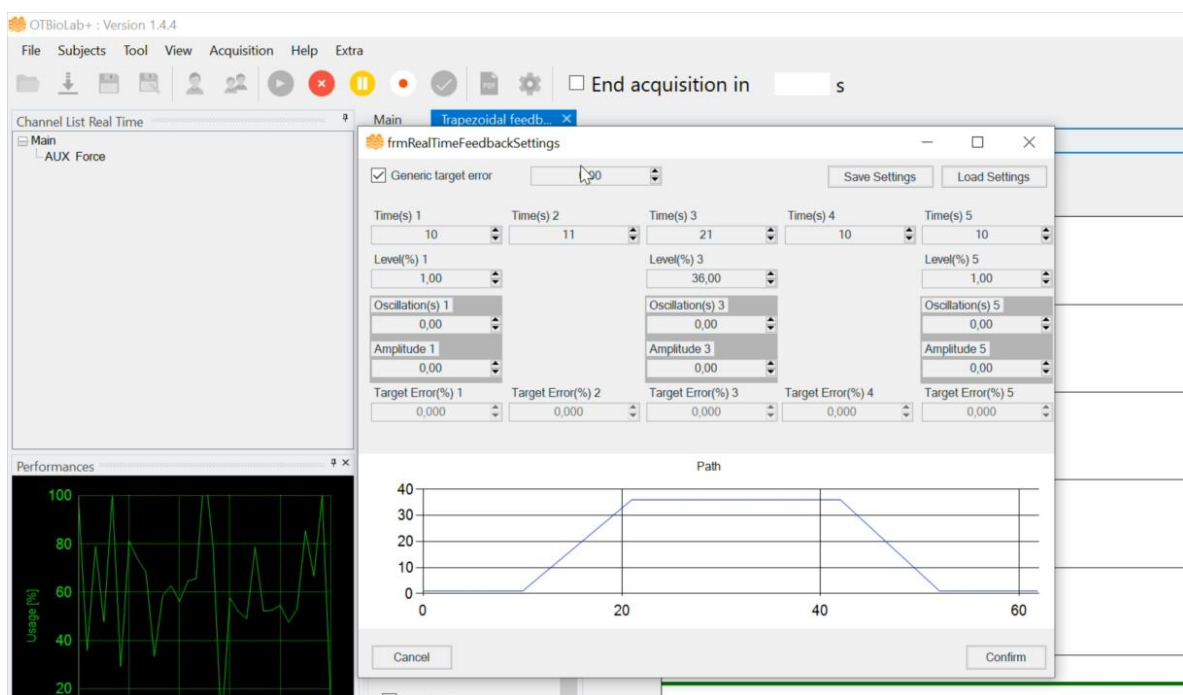
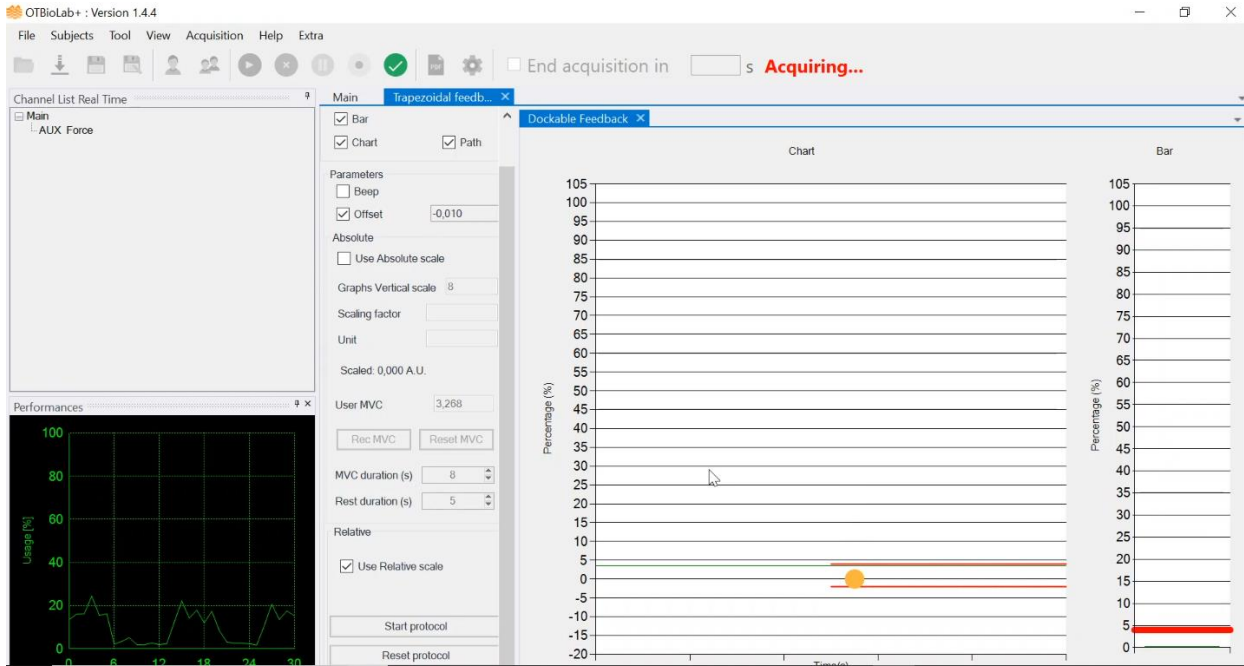
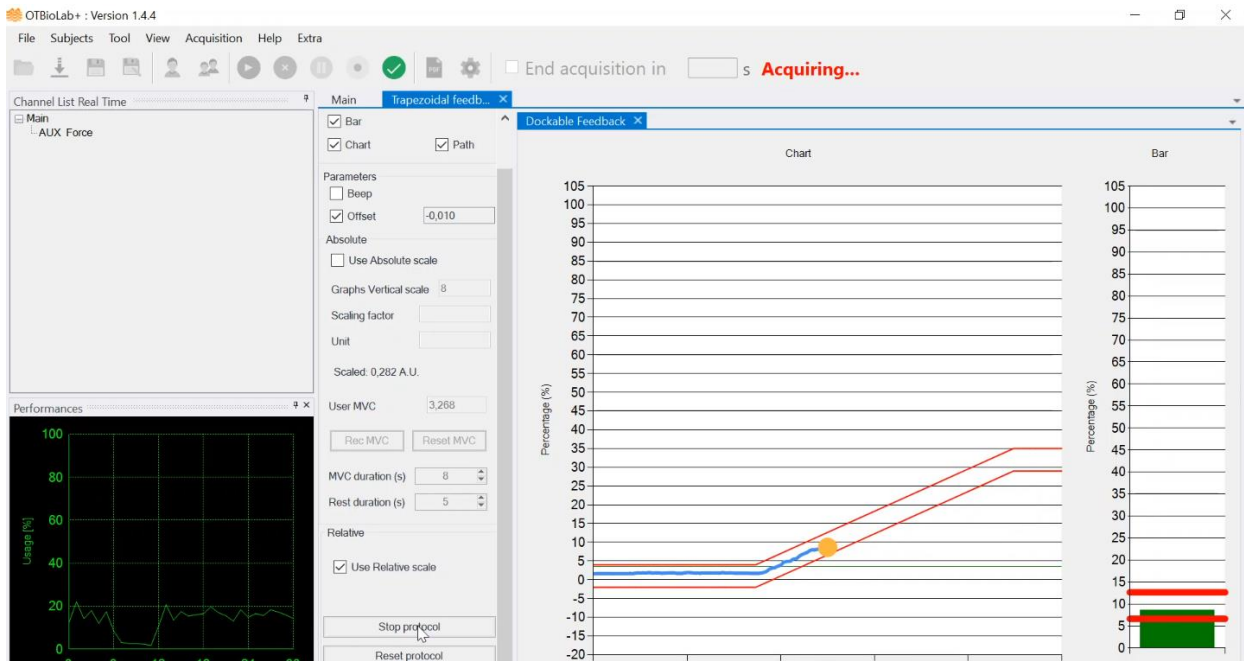

Fig. 8.15: Path Setting.
Fig. 8.16: Relative scale mode.
Fig. 8.17: Protocol section in Relative scale mode.
- **Settings:** allows access to the window shown in figure 8.15, in which the path to be followed during the task is defined. The path is divided into 5 parts and for each one it is possible to define the percentage of MVC to reach and the percentage of error that is considered acceptable. In addition, an equal error percentage can be defined for the entire route and specific for each portion, enabling or disabling the check button at the top.
Figure 8.15 shows the "Settings" window in which you can set the parameters of the path to follow. It is possible, once all the parameters have been set, to export the drawn path, in a text file, and then to import it, any follow the same path in other experiments. Following the path setting the trapezoidal feedback graph will change as shown in Figure 8.16. The vertical scale will now represent a percentage value with respect to the MVC value recorded previously and when the subject is ready just click on the "Start protocol" button to start the protocol section, as shown in figure 8.17.